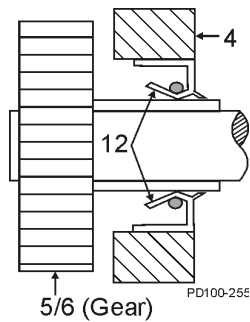

Figure 74 - Orientation of Oil Seal
1. Lightly coat the new oil seal (12) outer diameter with Red Loctite® 2760.
2. Lubricate the inside diameter of a new oil seal (12).
3. Press the new oil seal (Figure 74, item 12) into the gear case cover (item 4) flush with outside face, with the spring facing in.